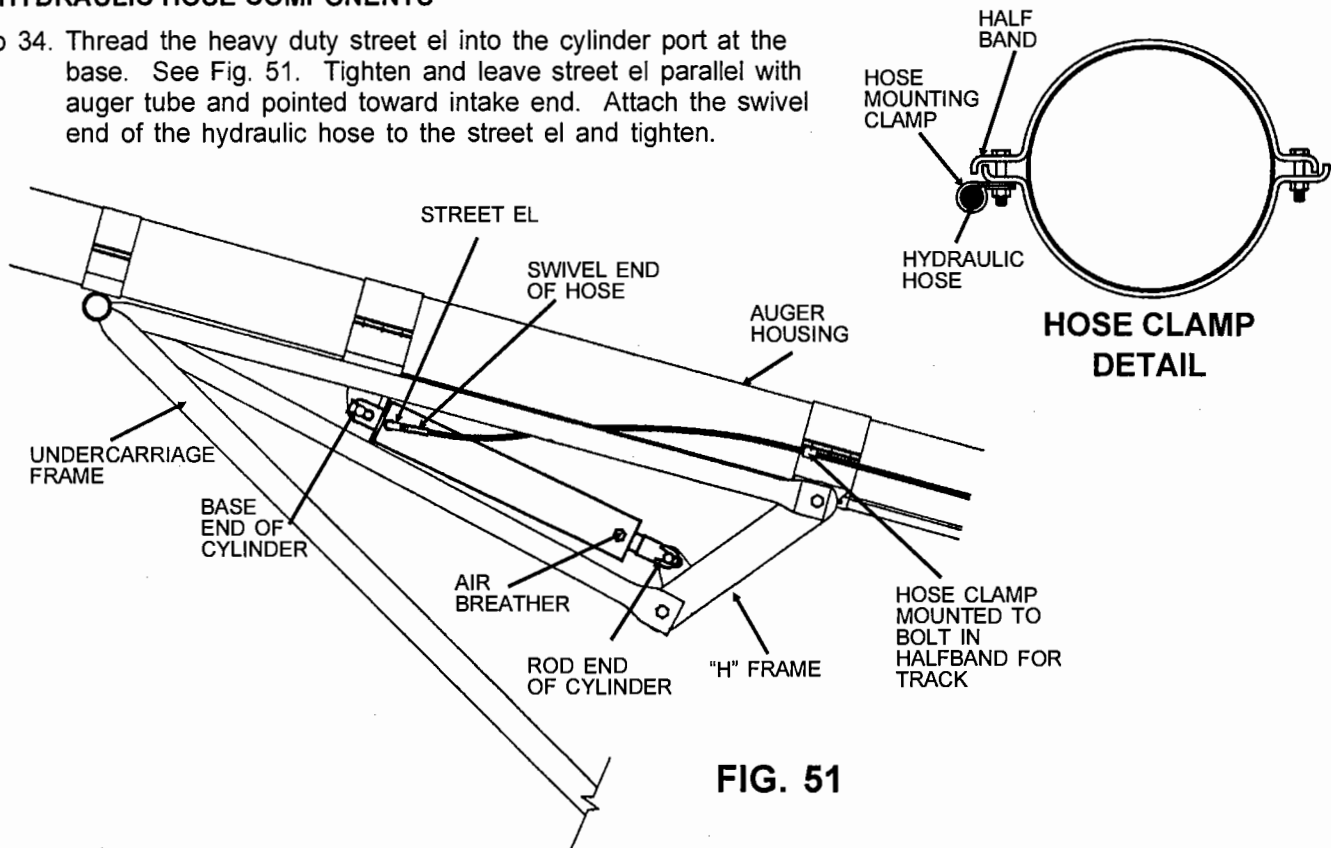

FIG. 51
Step 34. Thread the heavy duty street el into the cylinder port at the base. See Fig. 51. Tighten and leave street el parallel with auger tube and pointed toward intake end. Attach the swivel end of the hydraulic hose to the street el and tighten.